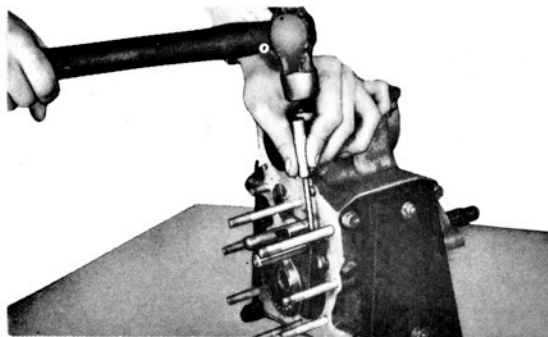
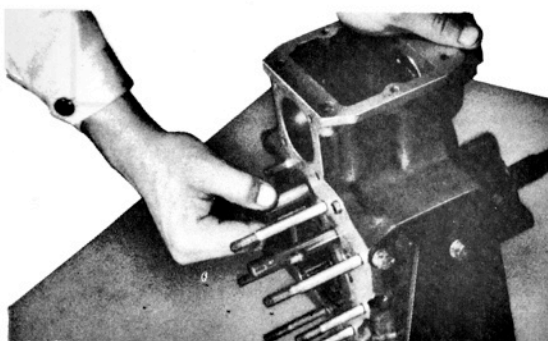

Fig. 3-9.
Fig. 3-10.
- 12) Drive out the shift fork spring pin with the special tool (spring pin puller-09922-85810) as shown in the Fig. 3-9 and remove the front drive shift fork, reduction clutch hub and reduction clutch sleeve.
- 13) Take out the two (2) bolts and remove the gearshift fork shaft stop plate.
- 14) Drive out of position the counter gear shaft by lightly tapping from the parking brake side (the end of the shaft not fitted with the stopper pin) and remove the shaft completely by turning it with hand as shown in the Fig. 3-10. When removing the shaft, use reasonable care to prevent damaging the "O" ring fitted to the end of the counter gear shaft.
- 15) With the shaft removed, the transfer counter gears can be removed from the transfer case. When removing the counter gear, carefully note the position of the two (2) needle roller bearings, spacer and thrust washers of different thickness fitted to both sides of the gear. (The thrust washer in thickness of 3.8mm (0.15mm) should be positioned at the low speed side.)